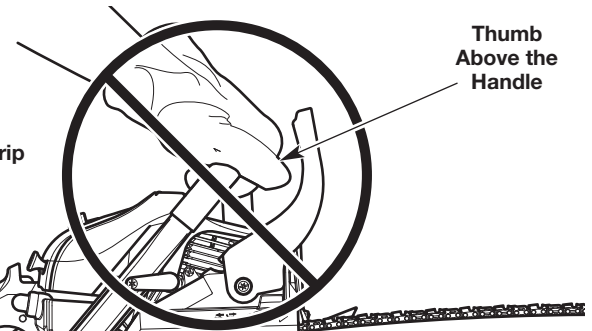

Fig. 7
- Firmly encircle the handles with the thumbs and fingers (Fig. 6). This will help reduce the chance of losing control of the unit if kickback occurs. Any grip with thumbs and fingers on the same side of the handles is dangerous (Fig. 7).